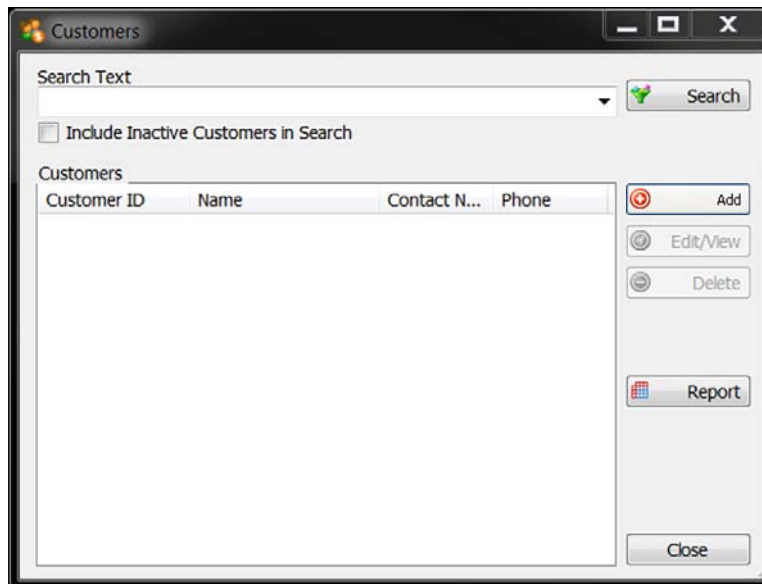

Figure 4-1. Customer Dialog Box
When making a selection from the **View** menu (excluding **Users**), a dialog box similar to that shown in Figure 4-1 on page 18 will appear. To quickly locate an item, it is recommended to use the **Search** function. To do so, in the **Search Text** text box, type a keyword matching the item to retrieve and press the **Search** button. This will display only items matching the keyword. To view all items (e.g., all customers), leave the **Search Text** text box blank and press the **Search** button. Doing so may be a time-consuming operation the database is large.
1. While logged in as an administrator, from the *View* menu, select *Jobs*. Or press the *Jobs* button from the tool bar. The *Select Job* dialog box appears, and offers the same features as the *Select Customer* dialog box shown in Figure 4-1 on page 18.